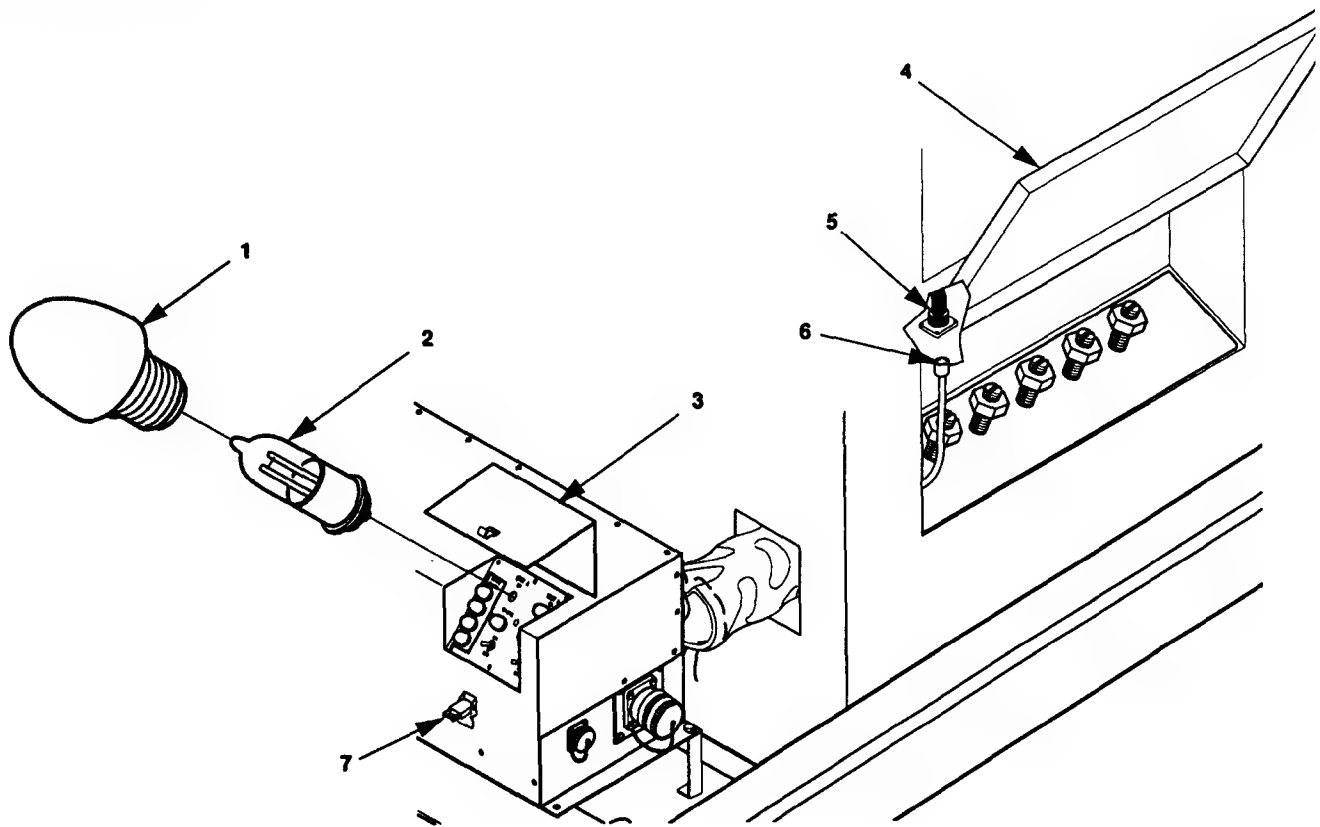

Figure 3-5. Indicator Lamps and P1 Connector Maintenance
1. Release clamping catch (7, figure 3-5) and open control panel access cover (3).
2. Grip and unscrew lens cap (1).
3. Remove lamp (2) by grasping the base and pulling outward.
1. Open access panel (4, Figure 3-5) to unit A generator load terminals.
2. Connect P1 (6) to J 16 (5) inside generator set.